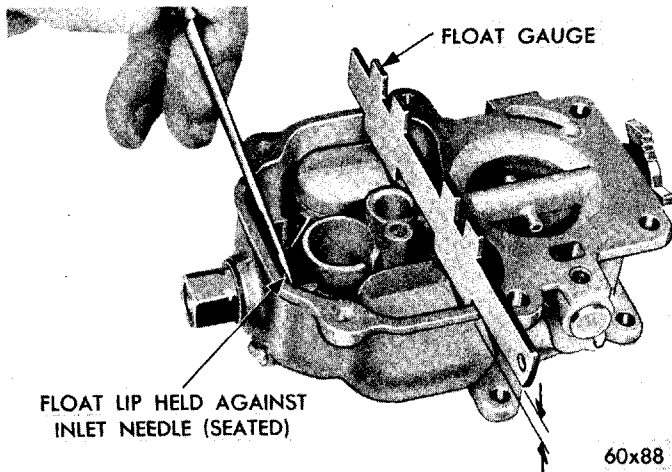

Fig. 14 — Checking Float Setting
(16) Assemble the fuel inlet needle valve, seat and gasket, then insert in position in the main body. Tighten securely. (If the needle valve is ridged or badly worn, install a new needle valve and seat assembly).
(17) Using Tool T109-239 or "T" scale check the float as shown in Figure 14. There should be $\frac{7}{32}$ inch from top of the crown of each float to the top of the main body. Each float must be adjusted to this setting and must not touch the sides of the bowl. Install float fulcrum pin retainer.
(18) Place a new gasket on the throttle body and position the main body making sure they are aligned.